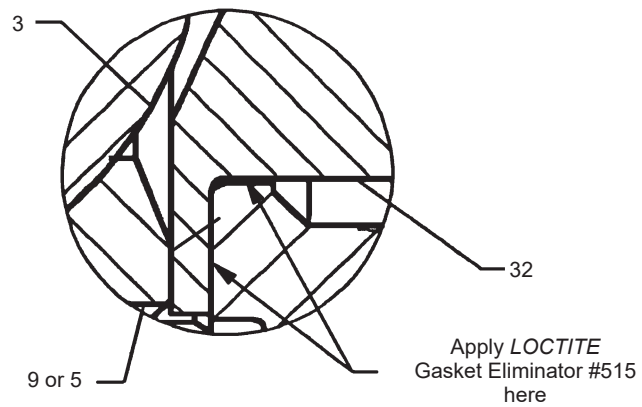

Figure 6
(See Figure 6 and new assembly, and Figure 7 for obsoleted.)
3. Holding the stem in place from the bottom, drop on from the outside two stem seals (8), a compression ring (21), and thread on the stem nut (16) until the stem starts to turn.
5. Insert the ball (3) rotating it onto the stem (4) in the closed position. If necessary, turn the stem blade to align with the ball slot.
6. If removal of diffuser is absolutely necessary, clean off sealing surfaces of diffuser and body caps (See Figure 6). Apply Loctite Gasket Eliminator #515 360° around diffuser (32) and mating surfaces of body cap (2). Now insert the small end of the diffuser into the body cap. The diffuser may not press all the way into the body cap at this time. This is normal. The diffuser will seat itself when the valve is fully assembled. Repeat this procedure with the other diffuser and body cap.